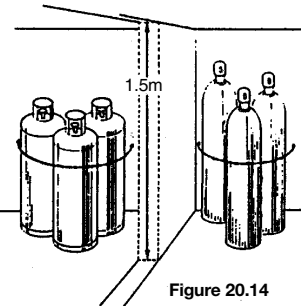

Figure 20.14
- Do not store oxygen cylinders within 20 feet of cylinders containing flammable gases unless they are separated by a partition at least 5 feet high and having a fire-resistance rating of at least 30 minutes (Figure 20.14).